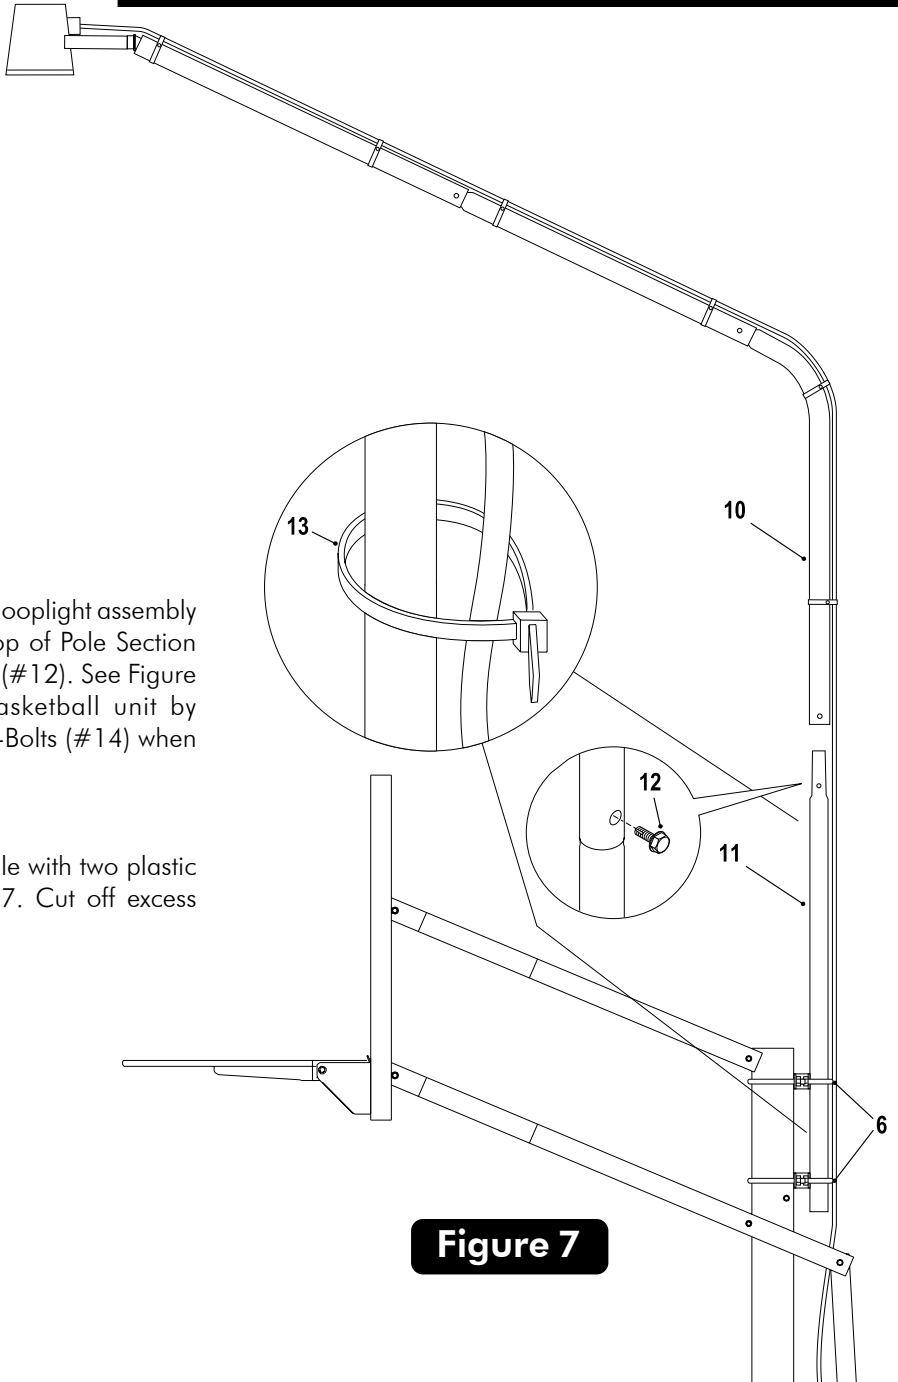

Figure 7
14. With the help of at least one other adult, lift hooplight assembly up and insert Pole Section "C" (#10) on top of Pole Section "D" (#11). Secure with a self tapping screw (#12). See Figure 7. If necessary, align hooplight with basketball unit by loosening U-Bolts (#14) **slightly**. Tighten U-Bolts (#14) when adjustments are complete.
15. Secure the remaining electrical cord to the pole with two plastic ties (#13) in the locations shown in Figure 7. Cut off excess plastic tie.